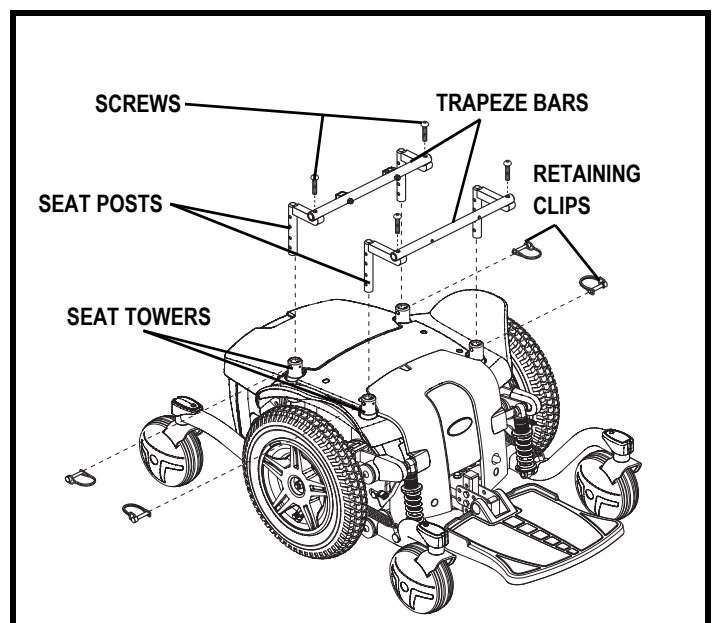

Figure 14. Seat Adjustment - Trapeze Bars
6. Loosen the setscrews on the seat towers. See figure 14.
7. Loosen the screws that attach the trapeze bars to the seat posts. See figure 14.
8. Remove the retaining clips that secure the seat posts to the power base. See figure 14.
13. Tighten the setscrew in each seat tower. See figure 14.